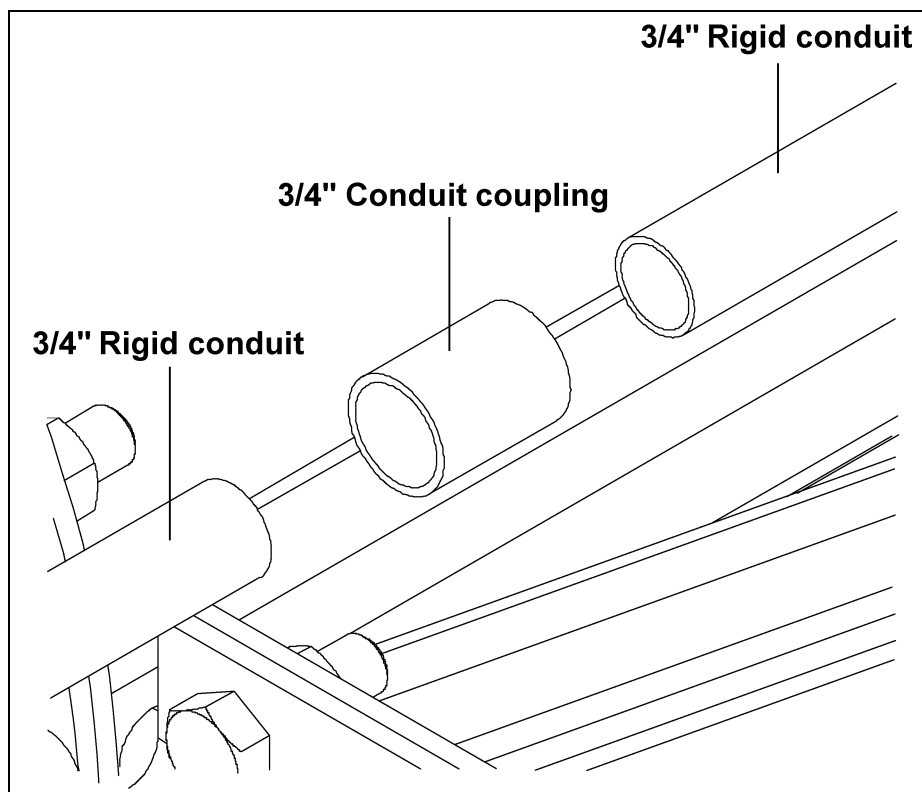

Figure 5AA
- B. Connect the rigid conduit together using one 3/4" conduit coupling between each piece of conduit. (See Figure 5AA.)